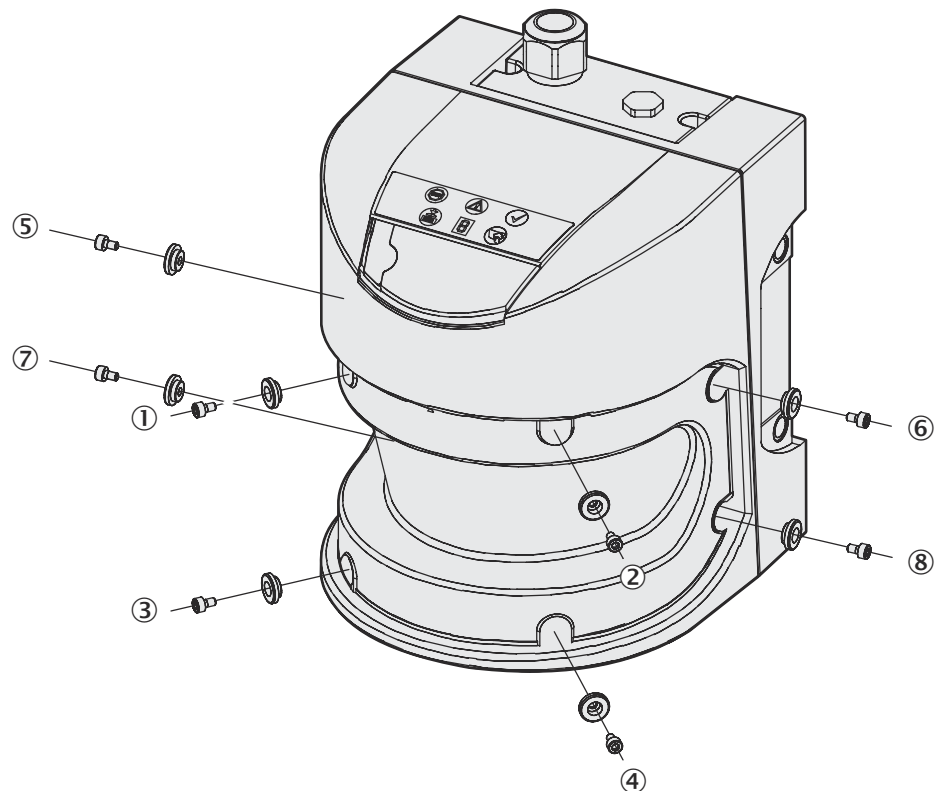

Figure 85: Remove the fixing screws of the front screen
14. Place the front screen on the rubber seal and insert the new fixing screws ① to ④ with distance bushes (see figure 85).
15. Press the front screen on the front of the cover. During this process tighten the front screws ① to ④ to the tightening torque set.
16. Now insert the rest of the screws ⑤ to ⑧ with distance bushes (see figure 85) and tighten using the torque wrench.